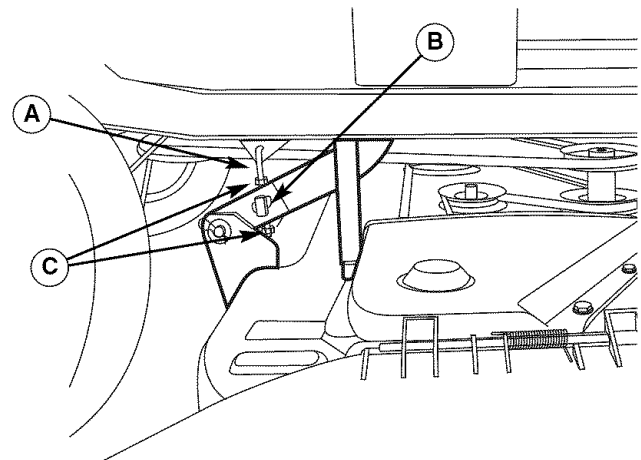

Figure 37. Side-to-Side Adjustment
6. See Figure 37. Side-to-side leveling is accomplished using the threaded rods (A) and trunnion (B) on the right and left rear sides of the mower deck. Loosen the jam nuts (C) and adjust the nuts up or down to adjust the mower level. When complete, tighten the jam nuts against the trunnion to lock the adjustment in place.